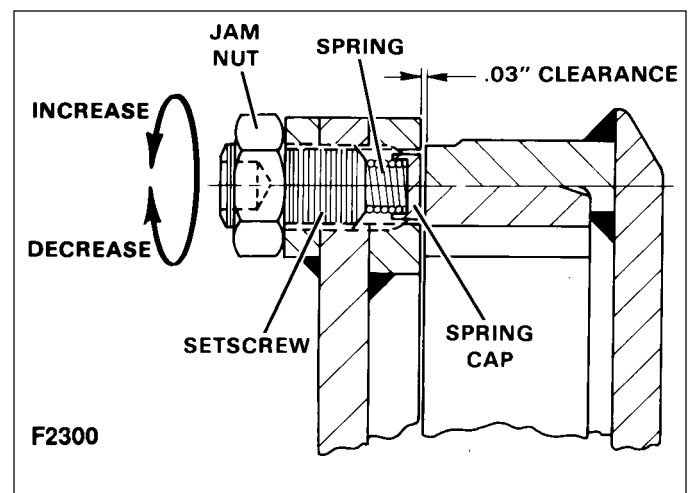

Figure 5-16. Spring Cap Adjustment
To replace the drum ring gear, proceed as follows, (see Figure 5-16):
5. Position the preheated ring gear in the drum so the face of the ring gear is flush with the face of the drum, as shown in Figure 5-16.
8. Finish welding the ring gear into place, as indicated in Figure 5-16, using a 3 inch (76.2 mm) skip weld with a 12 inch pitch. Alternate the weld. Finish the weld edge flat with a grinder. Lightly grind the drum weld edge. Do not remove more than 1/32 inch (.79 mm) of metal.
The drag on the dipper trip drum is adjusted by increasing or decreasing the spring tension on the spring caps see in Figure 5-16.